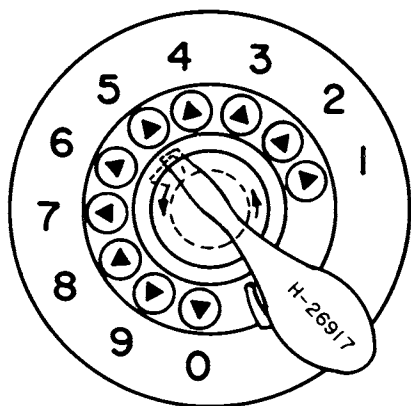
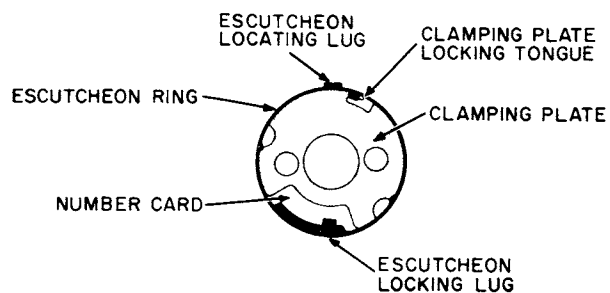

Figure 25. Unlocking escutcheon ring.
Figure 26. Number card in escutcheon ring.
6.1 To remove the escutcheon ring of a dial with metal finger plate (formerly all black telephones were equipped with metal finger plates), proceed as follows. Insert the dial escutcheon tool (H-26917) or a small screwdriver between the escutcheon ring and the transparent cover opposite finger hole 5 (figure 25). Press the tool downward until it engages the locking lever. Next move the tool counterclockwise toward finger hole 6. This will unlock the escutcheon ring. The ring may now be lifted from the dial with the tool. Figure 26 shows how the clamping plate holds the transparent cover and number card to the ring. Rotating the notched clamping plate counterclockwise will release the assembly.